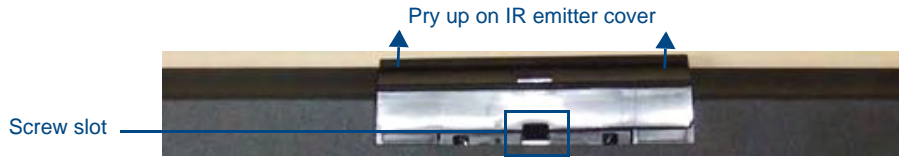

FIG. 100 Removal of the IR emitter cover
2. Place the device face-down on a surface that will not scratch the unit and gently pry up the IR emitter cover at the screw slot at its bottom (FIG. 100).